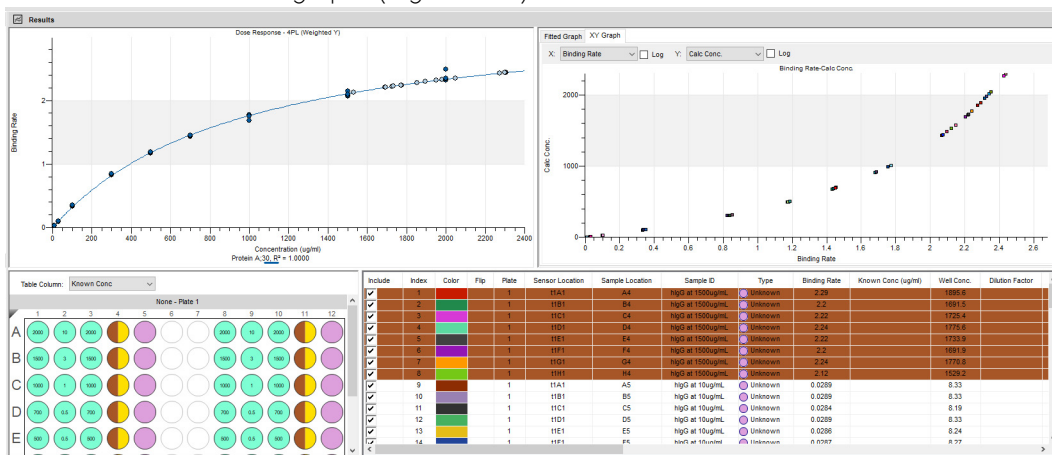

Figure 10-5: Standard Curve and X-Y Plots
Standard Curve and X-Y graphs (Figure 10-5).
- To view data for a single sample plate well, click a well in the plate map or row in the results table (Figure 10-5). The well you selected highlights in green on the Standard Curve, and only the well selected displays in the X-Y graph.